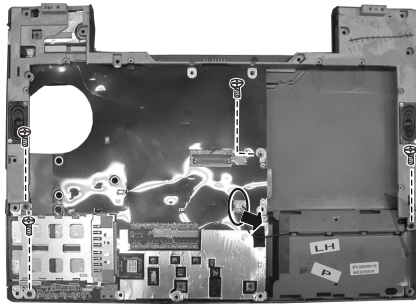

Figure 2-29 Remove four screws and disconnect the two cables
2. Remove four screws that secure the system board and disconnect one speaker's cables. Then lift it up from the housing. (Figure 2-29)